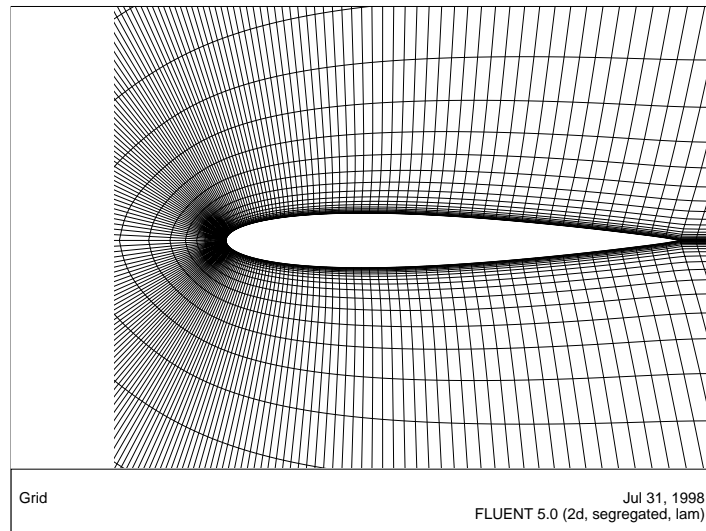

Figure 2.3: The Grid After Zooming In on the Airfoil
- (b) Use the middle mouse button to zoom in on the image so you can see the mesh near the airfoil (Figure 2.3).